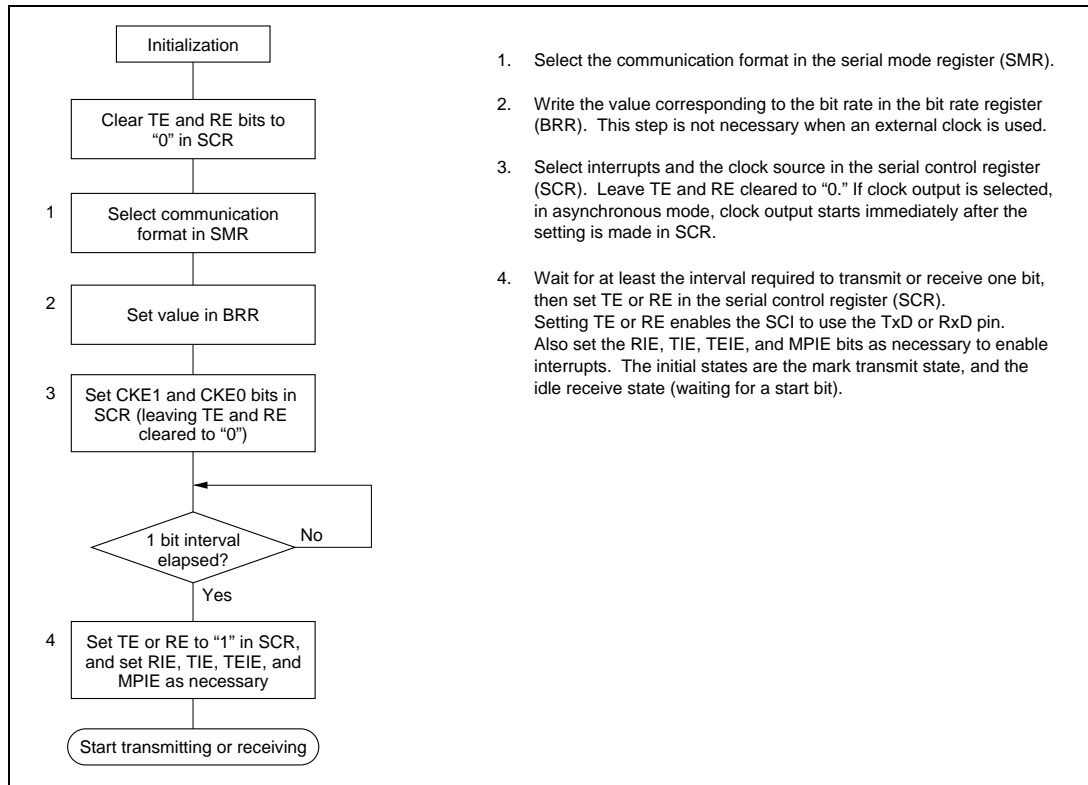

Figure 9-4. Sample Flowchart for SCI Initialization
- (2) Transmitting and Receiving Data**
- **SCI Initialization:** The SCI must be initialized in the same way as in asynchronous mode. See figure 9-4. When switching from asynchronous mode to clocked synchronous mode, check that the ORER, FER, and PER bits are cleared to “0.” Transmitting and receiving cannot begin if ORER, FER, or PER is set to “1.”